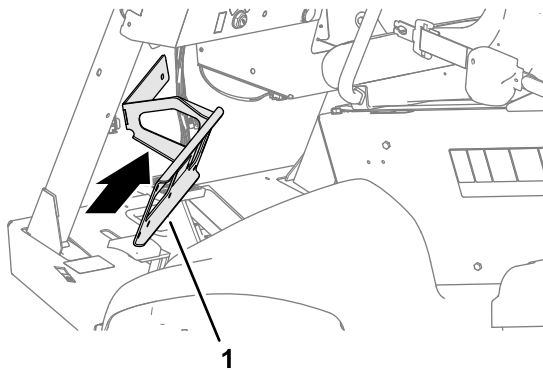

Figure 74
1. Align the manifold mount to the front of the machine as shown in Figure 74.